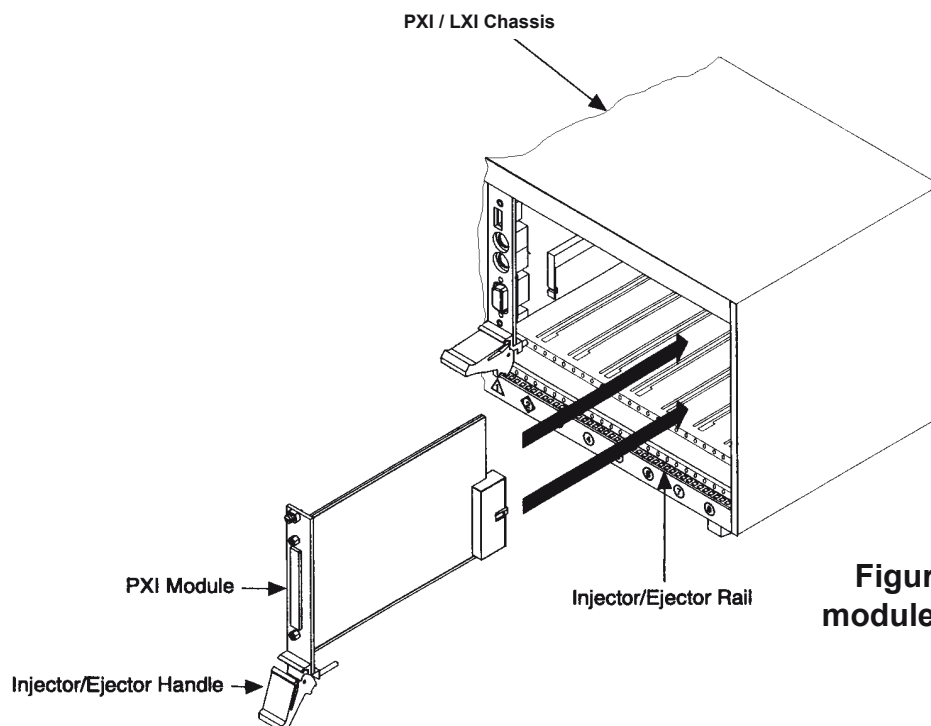

Figure 3.1 - Installing the module into a PXI / cPCI / LXI Chassis
5. Hold the handle whilst slowly sliding the module into the card guides until the handle catches on the injector/ejector rail (refer to Figure 3.1).